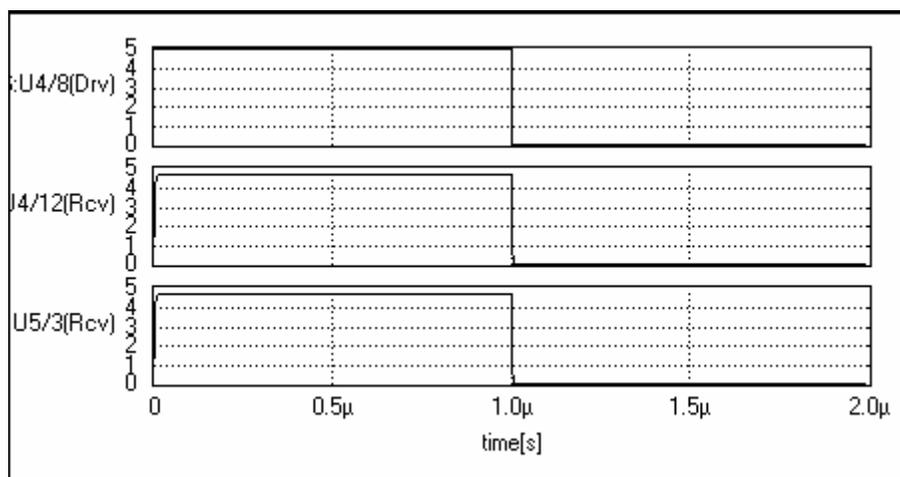

Fig. 9.11
12. The check box '**Generate Waveform**' should be checked. The result is displayed in the waveform viewer. Checking the option 'Display Field' will invoke the Field Analyzer. (See the next section for notes on Field Analyzer). Click the **SIMULATE** button to process the simulation. The in for one wavelength and a time step of 1ns gives the following result as shown in Fig.9.11.